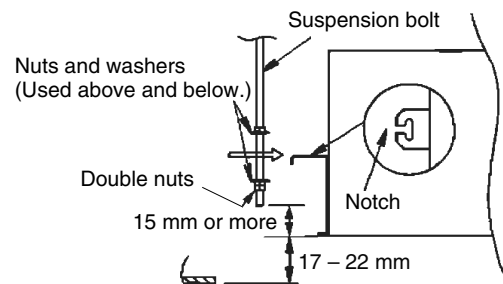
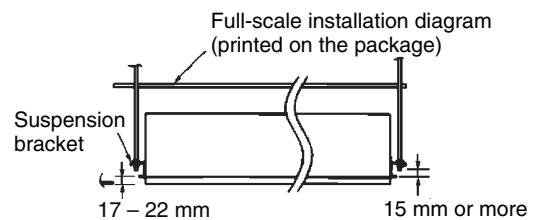

Fig. 3-7
Fig. 3-8
The length of the suspension bolts should extend a minimum of 15 mm beyond the bottom of the unit suspension bracket. Refer to Fig. 3-8.
- (3) Thread the 3 hexagonal nuts and 2 washers (field supply) onto each of the the 4 suspension bolts as shown in Fig. 3-7. Use 1 nut and 1 washer for the upper side, and 2 nuts and 1 washer for the lower side, so that the unit will not fall off the suspension lugs.
- (4) The indoor unit should be suspended from the suspension bolts (Fig. 3-7) so that the distance between the bottom of the suspension lug and the bottom surface of the ceiling is 17 to 22 mm. (Fig. 3-8) Clearance between the indoor unit and the bottom surface of the ceiling is adjustable after the ceiling panel is attached to the unit.